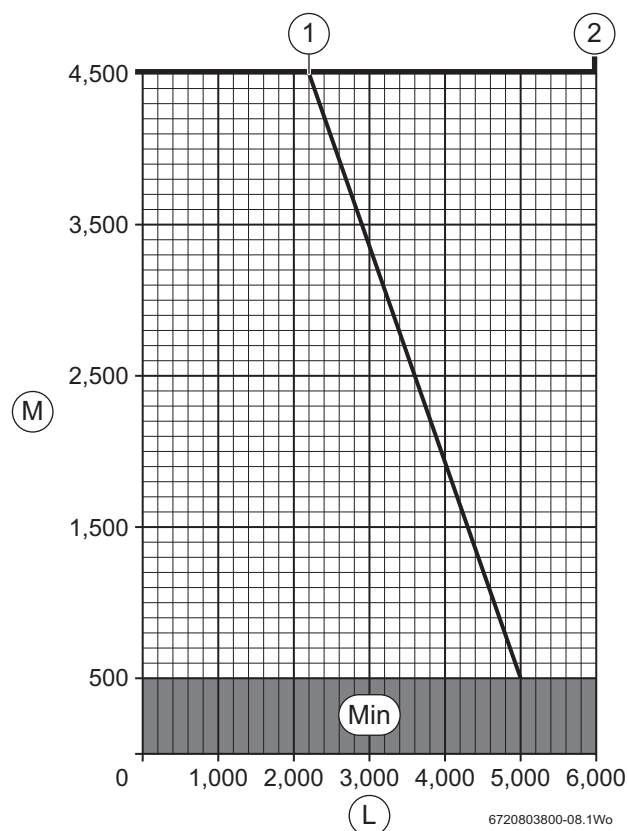

Fig. 20 Effective flue lengths versus plume management lengths
Refer to figure 20 to determine the appropriate plume length (M) versus the flue length (L).